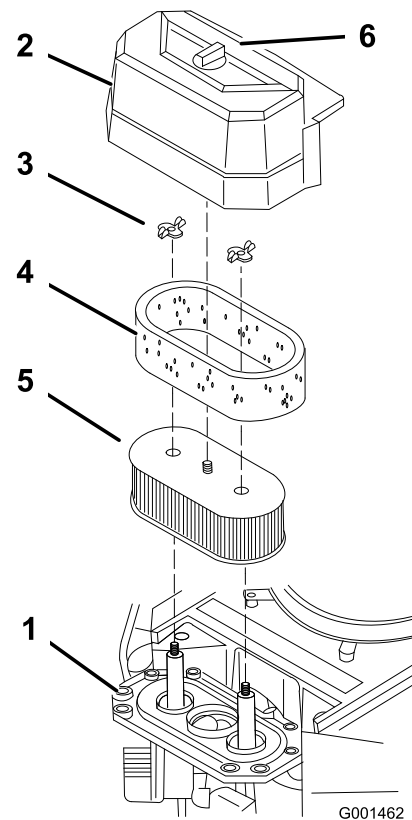

Figure 25
3. Clean around the air cleaner to prevent dirt from getting into the engine and causing damage (Figure 25).
4. Unscrew the cover knob and remove the air cleaner cover (Figure 25).
5. Remove the 2 wing nuts and remove the air cleaner assembly (Figure 25).
6. Carefully pull the foam element off the paper element (Figure 25).
1. Do not clean the paper filter. Replace it after 200 operating hours (Figure 25).
1. Carefully slide the foam element onto the paper air cleaner element (Figure 25).
2. Place the air cleaner assembly onto the air cleaner base and secure it with the 2 wing nuts (Figure 25).
3. Place the air cleaner cover into position and tighten the cover knob (Figure 25).